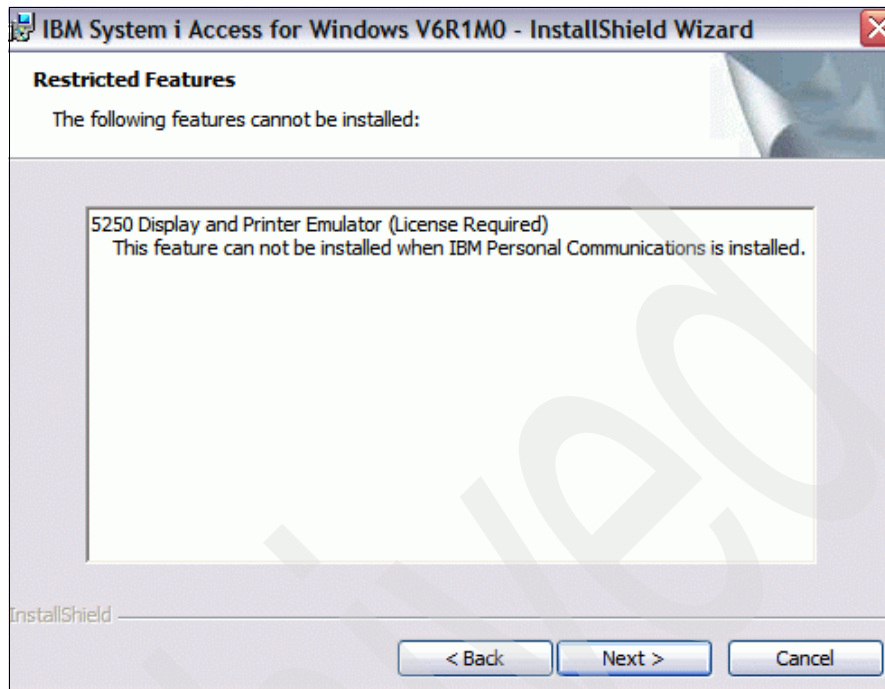

Figure 7-16 IBM System i Access for Windows Restricted Features
8. Certain features require a license agreement to use their functionality, as shown in Figure 7-16 on page 260. Ask your service representative for a valid license key.